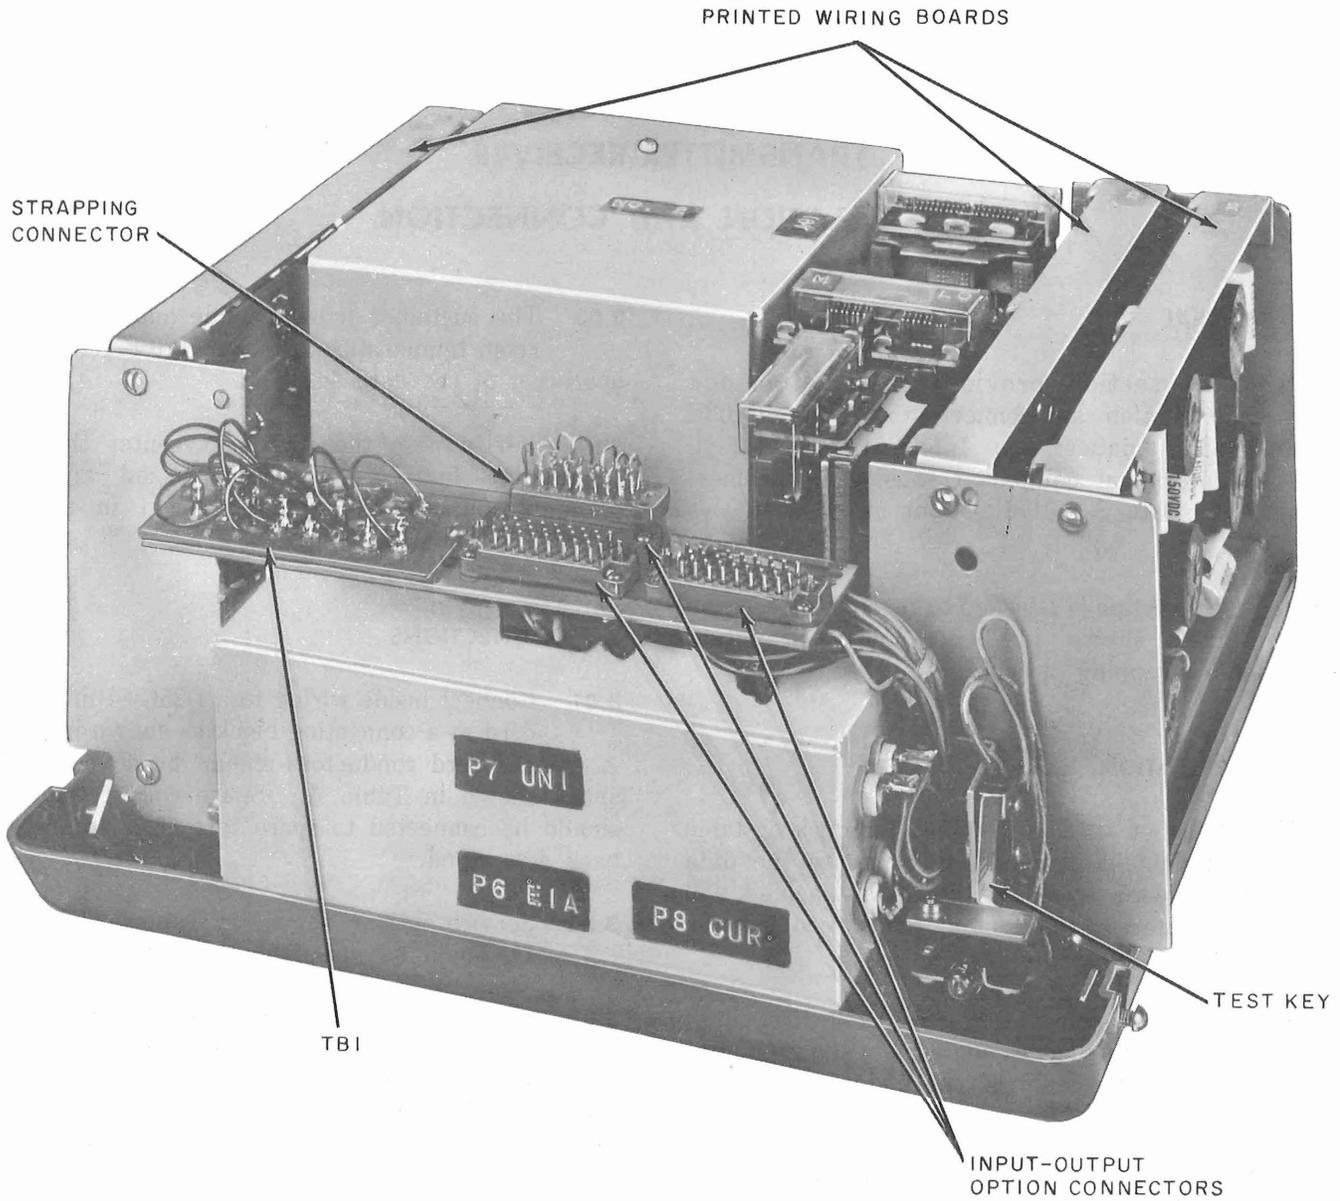

Fig. 1—Data Set 103B—Side View
**3.04** To match input-output characteristics of customer equipment, a factory-strapped connector (P-39C183 connector assembly) is placed over the proper male plug (Fig. 1 and Table C). Using a KS-6854 screwdriver, carefully tighten screw at each end of the assembly.